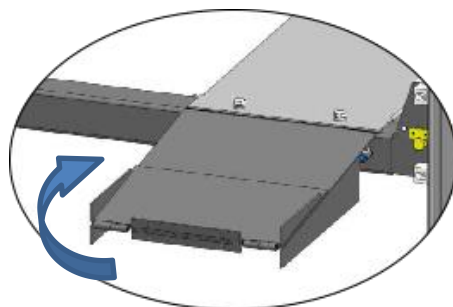

**Fig. 28**
**N. Install folding drive-in ramp, jack tray and plastic oil tray (See Fig. 28).**